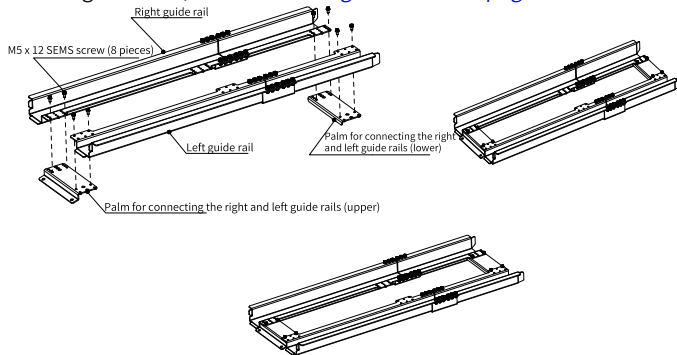

Figure 1-11 Assembling guide rails
a. Assemble the guide rails, as shown in "Figure 1-11 " on page 22 .